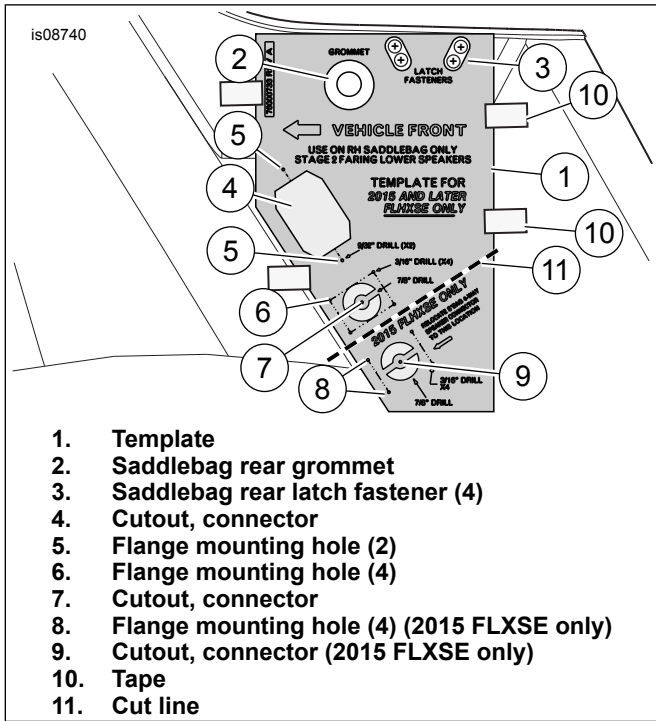
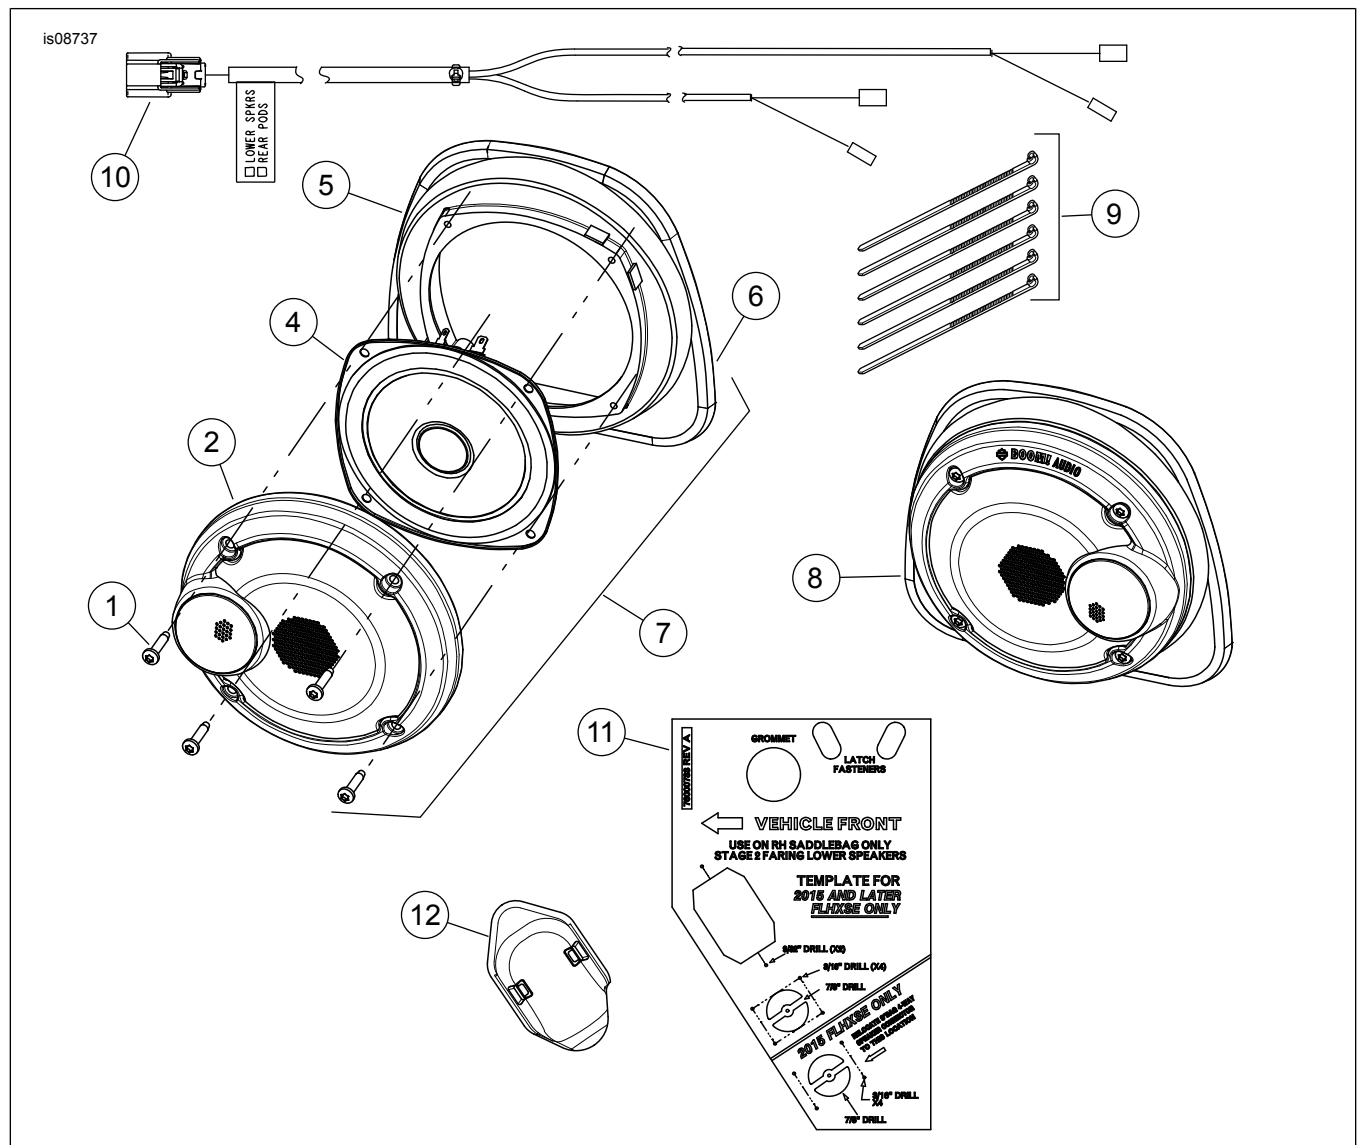

Figure 3. Right Saddlebag Cutout and Drilling Harness Installation
Figure 4. Service Parts, Fairing Lower Speakers
See Figure 4 and Table 1.
- See Figure 4.
- Vehicles with Stage I system:** Route the small terminal leads on wire harness (10) to the lower fairing.
- Vehicles with Stage II system:** Wire harness (10) is not used, and can be discarded. Route the vehicle side harness per the instructions in the **amplifier** installation kit. **DO NOT** drill any holes in fairing lower.
Plug in connector [313] to wire harness (10). See Figure 4. Proceed to **COMPLETION** Section of this document.
1. See Figure 3. Use the template (1) to cut the openings in the saddlebag for the **fairing lower** amplifier 18-way flanged connector [289-1].
- a. Saddlebag lid speakers are present from the original equipment (OE) installation. Right side speaker wires could be in the connector cutout location. Remove the OE wire harness and four-way connector.
- b. Place the template on the saddlebag. Align the grommet (2) and latch fastener (3) openings. Use tape (10) to secure the template in place.
- d. Trace the cut outline (4) onto the saddlebag. Trace the cut outline (7) onto the saddlebag. Trace the cut outline (9) onto the saddlebag.
- e. Drill two 9/32 in (7.25 mm) holes (5) for the connector flange mounting locations. Drill five 3/16 in (**4.5 mm?** **5 mm?** **Which is better?**) holes (6) for the connector flange mounting locations. Drill five 3/16 in (**4.5 mm?** **5 mm?**) holes (8) for the connector flange mounting locations.
- f. Remove template. Use an air saw or similar tool to cut out the connector cutout (4). Verify size of opening (4) with the 18-way flanged connector [289-1A] on the saddlebag harness (see Figure 4, Item 7). Shape the hole as seen on the template if necessary for proper fit.
- a. Cut the bottom of the template along cut line (11). Discard the bottom of the template.
- b. Saddlebag lid speakers are present from the original equipment (OE) installation. This connector remains as is.
- c. Place the template on the saddlebag. Align the grommet (2) and latch fastener (3) openings. Use tape (10) to secure the template in place.
- e. Trace the cut outline (4) onto the saddlebag. Trace the cut outline (7) onto the saddlebag.
- f. Drill two 9/32 in (7.25 mm) holes (5) for the connector flange mounting locations. Drill five 3/16 in (**4.5 mm?** **5 mm?**) holes (6) for the connector flange mounting locations.
- g. Remove template. Use an air saw or similar tool to cut out the connector cutout (4). Verify size of opening (4) with the 18-way flanged connector [289-1A] on the saddlebag harness (see Figure 4, Item 7). Shape the hole as seen on the template if necessary for proper fit.
- h. After installing the 18-way connector [289-1]: Install connector cover (12) over it by snapping in place. Secure wire bundles inside bag using cable straps and adhesive bases provided with amplifier installation kit. Complete Stage II amplifier installation per instruction in **that** kit.
See Figure 3, Items 6 and 7.